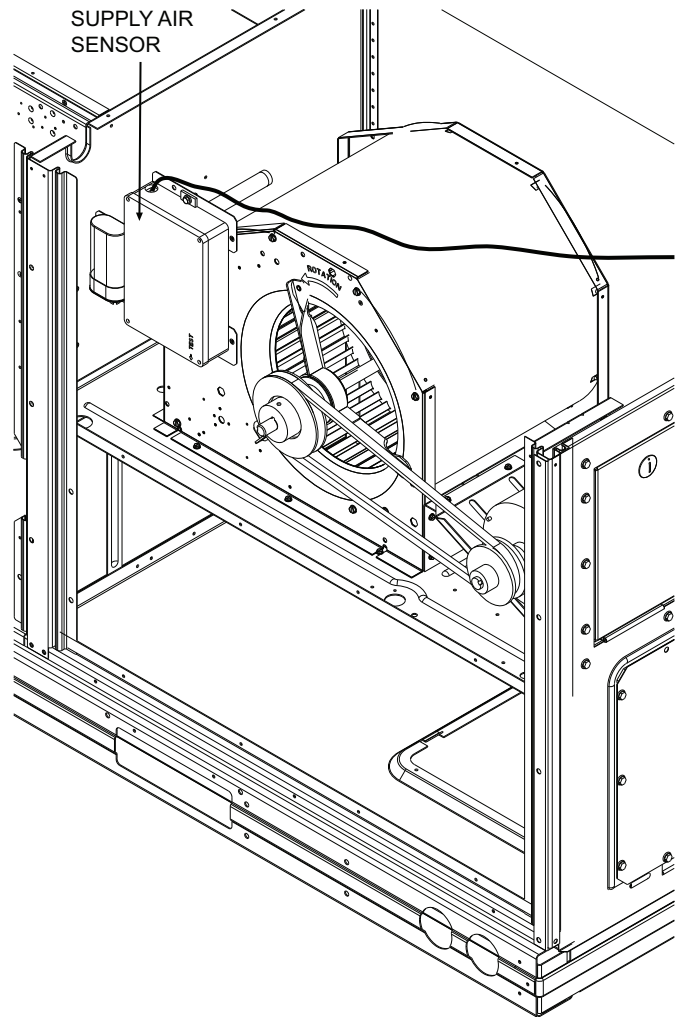

Fig. 15 — Supply Air Sensor Mounting Location
- a. For 48/50TC, 580J, 558J, 548J, RGS, RAS, RHS units (6 tons) and 48/50HC, 581J, 551J, 549J, RGH, RAH, RHH, 48/50LC, 48/50KC, 50KCQ, 50TCQ, 50HCQ, 582J, 559K, 547J, RGX, RAX, RHX units (3 to 5 tons), refer to Fig. 15. Remove 7/8 in. knockout on the left side of the blower. Using two #8 screws, attach the sensor to bracket (50HJ542422), orienting the intake on the sensor such that it will align with the knockout on the blower. Insert the 2-7/8 in. pickup tube (48HG503589) into the intake on the sensor so that the hole in the tube will be in the air stream. Attach the sensor's bracket to the blower.
- b. For 48/50TC, 580J, 558J, 548J, RGS, RAS, RHS units (7.5 to 15 tons) and 48/50HC, 50TCQ, 50HCQ, 581J, 551J, 549J, RGH, RAH, RHH, 48/50LC units (6 to 10 tons), refer to Fig. 15. Remove 7/8 in. knockout on the right side of the blower. Using two #8 screws, attach the sensor to bracket (48TM002384), orienting the intake on the sensor such that it will align with the knockout on the blower. Insert the 2-7/8 in. pickup tube (48HG503589) into the intake on the sensor so that the hole in the tube will be in the air stream. Attach the sensor's bracket to the blower.